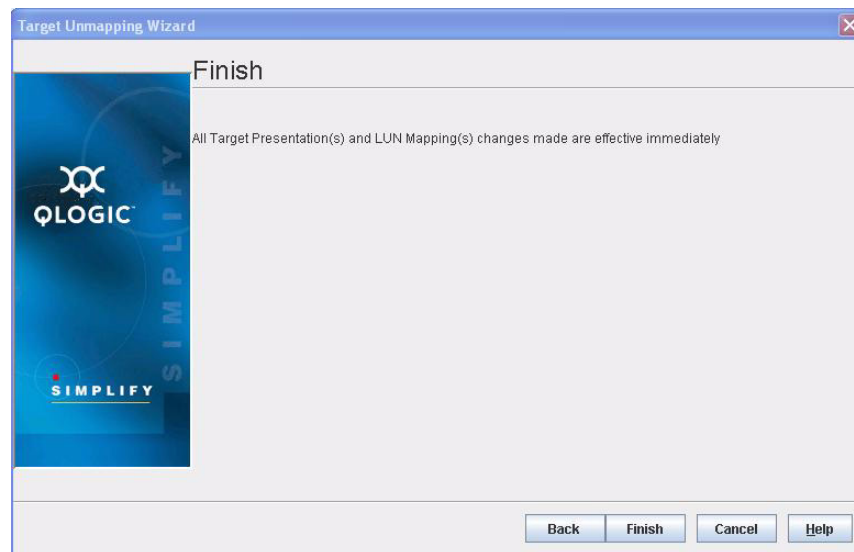

Figure 7-64 Target Unmapping Wizard Finish Dialog Box
6. Review the status, then click **Next**. The Finish screen displays, as shown in Figure 7-64.